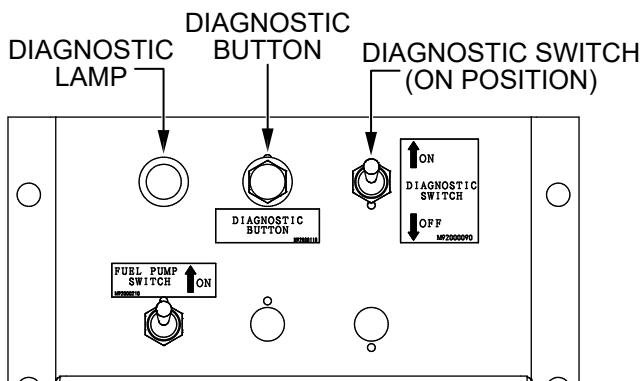

Figure 83. Diagnostic Panel
5. To start the diagnostic process, place the **Diagnostic switch** in the **ON** (Figure 83) position.
6. Verify that the **Diagnostic lamp** (Figure 83) is **ON**. This indicates that there is a fault/error in the engine or the engine control system.
7. Press and hold the **Diagnostic button** (Figure 83) to identify the fault and verify the following:
- The **Diagnostic lamp** (Figure 83) will flash a pattern corresponding to the detected fault code 3 times at 2.4-second intervals.